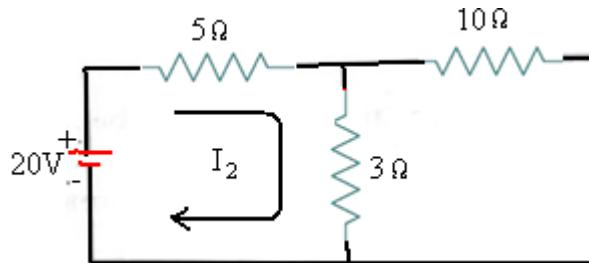

Fig.1
**Solution:** Applying the superposition theorem, the current  $I_2$  in the resistance of  $3\Omega$  due to the voltage source of  $20V$  alone, with current source of  $5A$  open circuited [ as shown in the figure.1 below ] is given by :